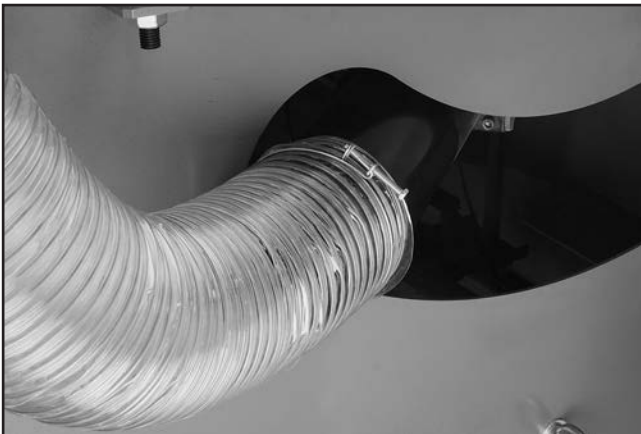

Figure 57. 5" dust port location.
55. Secure a 5" dust hose to the dust port located under the saw table (Figure 57).